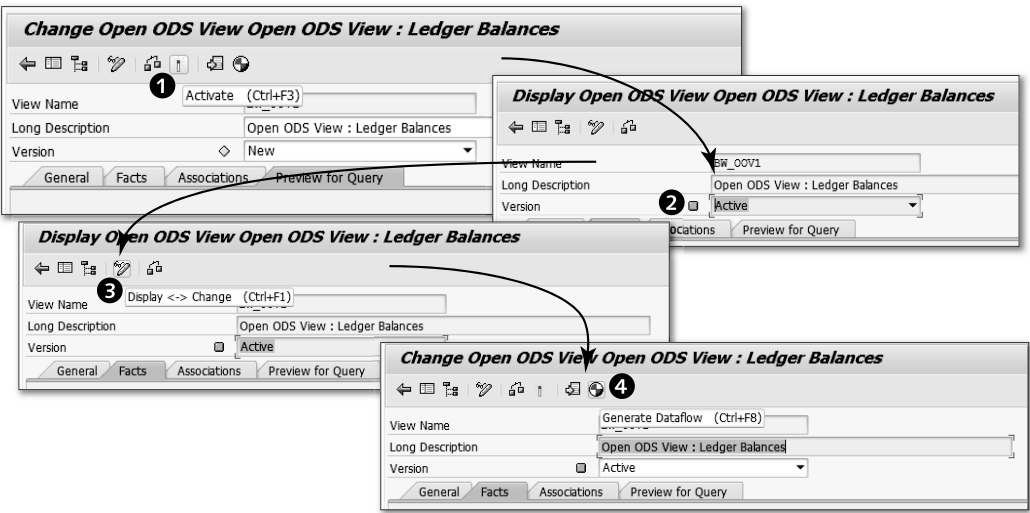
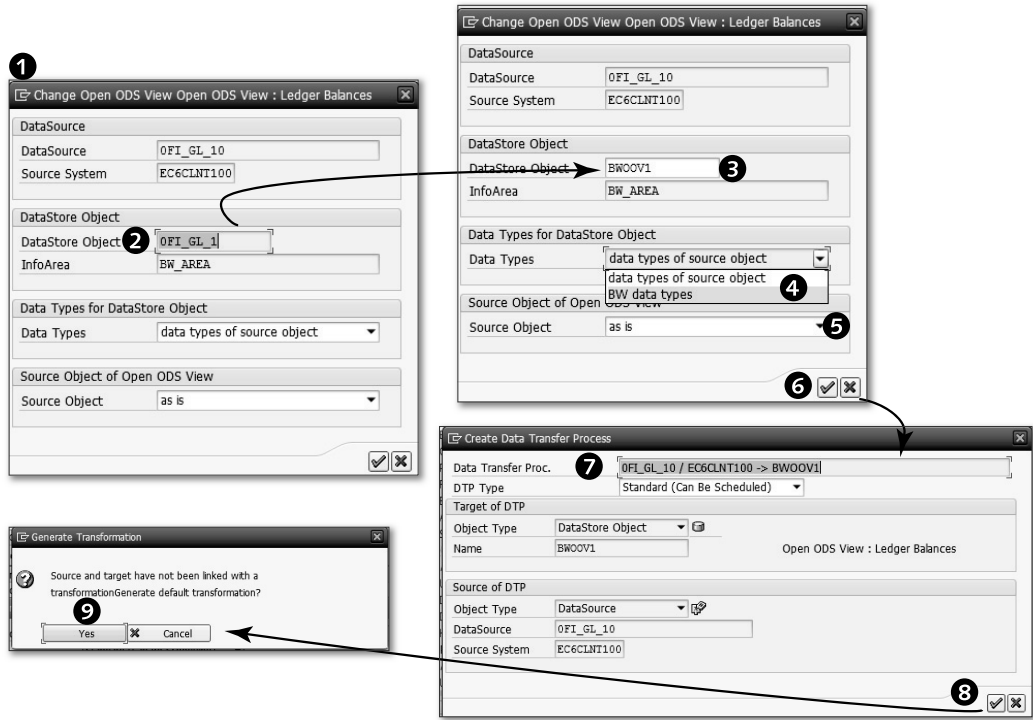

Figure 6.87 Activate and Generate Data Flow
Figure 6.88 Automatic DSO/DTP/Transformation Generation for OOV
The example OOV design is now ready to be activated. Use the ACTIVATE icon as shown in ❶ of Figure 6.87 to make the OOV active ❷.
You don't have to create the DSO from scratch; instead, you can create the DSO based on the OOV design. To do this, you need to go back to Change mode. Click on the DISPLAY < -- > CHANGE icon (refer to 3 of Figure 6.87). Now you're in the CHANGE OPEN ODS VIEW screen. Click on the GENERATE DATAFLOW icon 4. This action opens up a popup as shown in 1 of Figure 6.88. The name of the DSO to be generated is proposed by the system, which, in our case, is OFI_GL_1 2. Change this proposal to "BWOOV1" 3. Also, in the DATA TYPES field, select BW DATA TYPES 4, and keep the SOURCE OBJECT field set to AS IS 5.